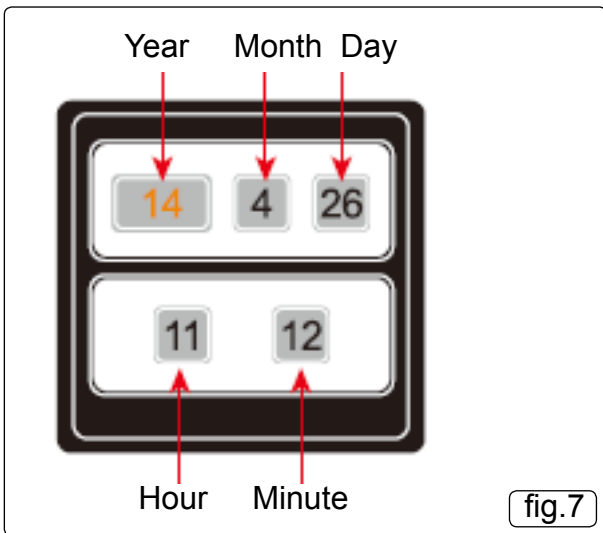

fig.7
- 4.12.1. In the clock menu, you can set the time and date.(fig.7)